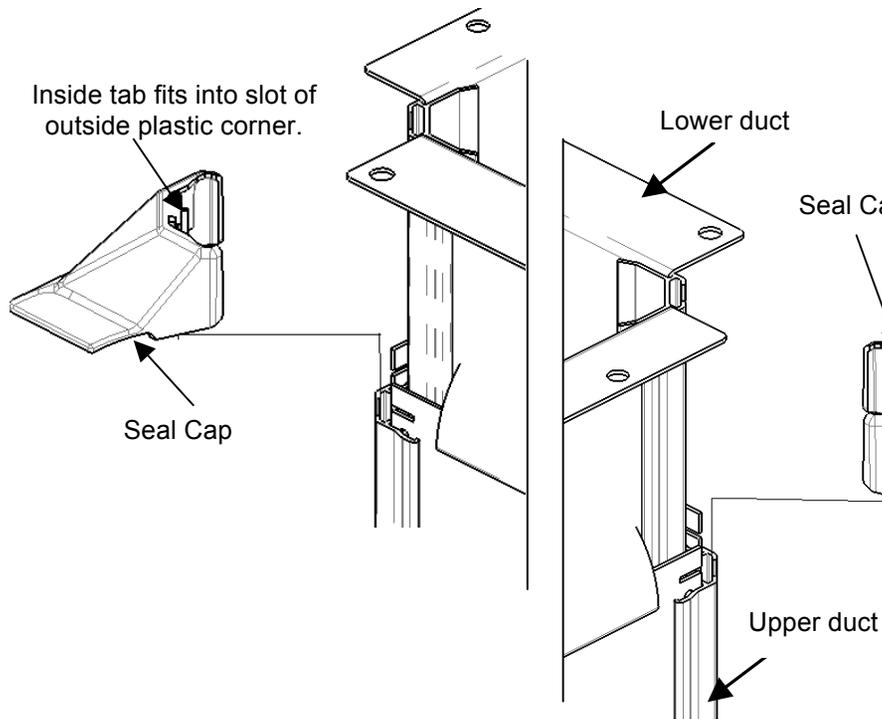

Fig. 5
7. Turn the duct over (upside down) so that the mounting flanges on the lower duct face the top. Slide the Seal Caps onto the 4 corners of the outer duct in the orientation shown. Position the caps about mid-way down (Fig. 5).